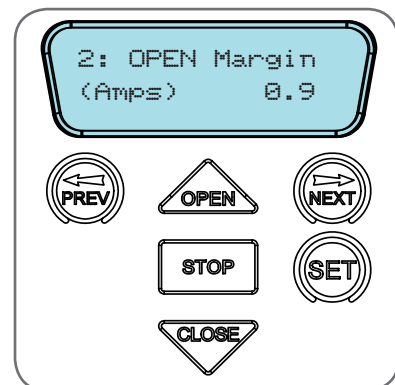

Fig 12.3
- MENU 2.2: OPEN Margin is displayed (**Fig. 12.3**).
- Reprofiling is a simplified way of re-learning the travel characteristic of a previously setup Limit Switch travel installation. Re-profiling can be used when the travel characteristics of the door change due to mechanical adjustments etc. To initiate a re-profile, simply locate "MENU 10.2 Reprofile Travel", press SET and follow the prompts. The door will start to move and re-calculate force margins. The door can move between the open and close limit positions up to two (2) times (depending on the position of the door and the power up condition).